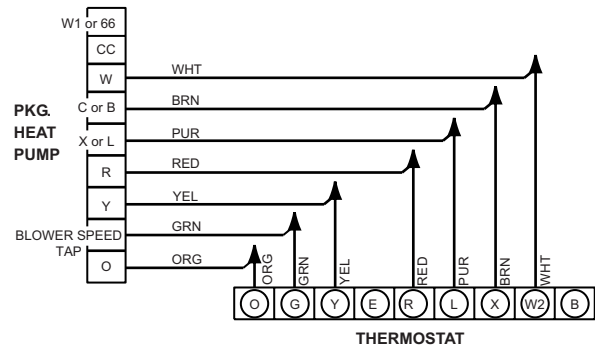

Figure 11: Thermostat Wiring
- Run low voltage control circuit wires through the fingered snap bushing to the low voltage terminal wire. Refer to Figure 11 diagram to connect the low voltage control wiring to the units low voltage connections.